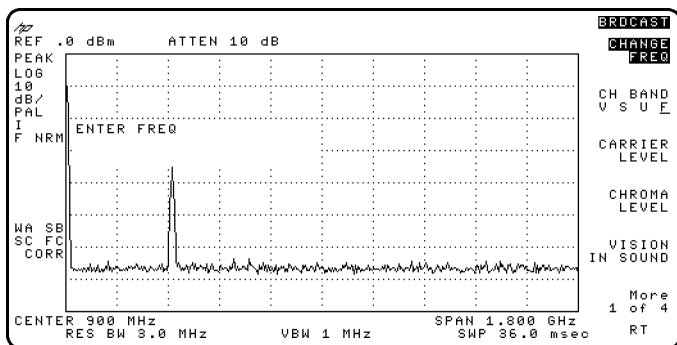

Figure 2-3. Selecting a TV Channel by Vision Carrier Frequency
4. Press **FREQ MODE TV FM (TV)**.
7. Press **CHANGE FREQ** and **ENTER FREQ** appears in the active area on the spectrum analyzer screen. Refer to Figure 2-3.
4. Press **FRQ MODE TV FM (FM)**.